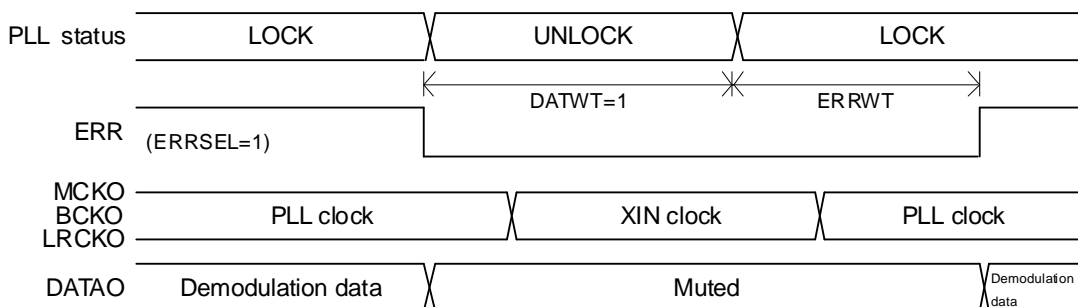

Figure 3-9 ERR Output Timing Chart when DATWT=1 (comparison with Fig. 3-7 (c))
- An output as shown in Fig. 3-7 (c) is not desirable for ERR becomes a control signal of mute transistor. It recommends setting mute output release in 342ms by DATWT register. (Fig. 3-9)